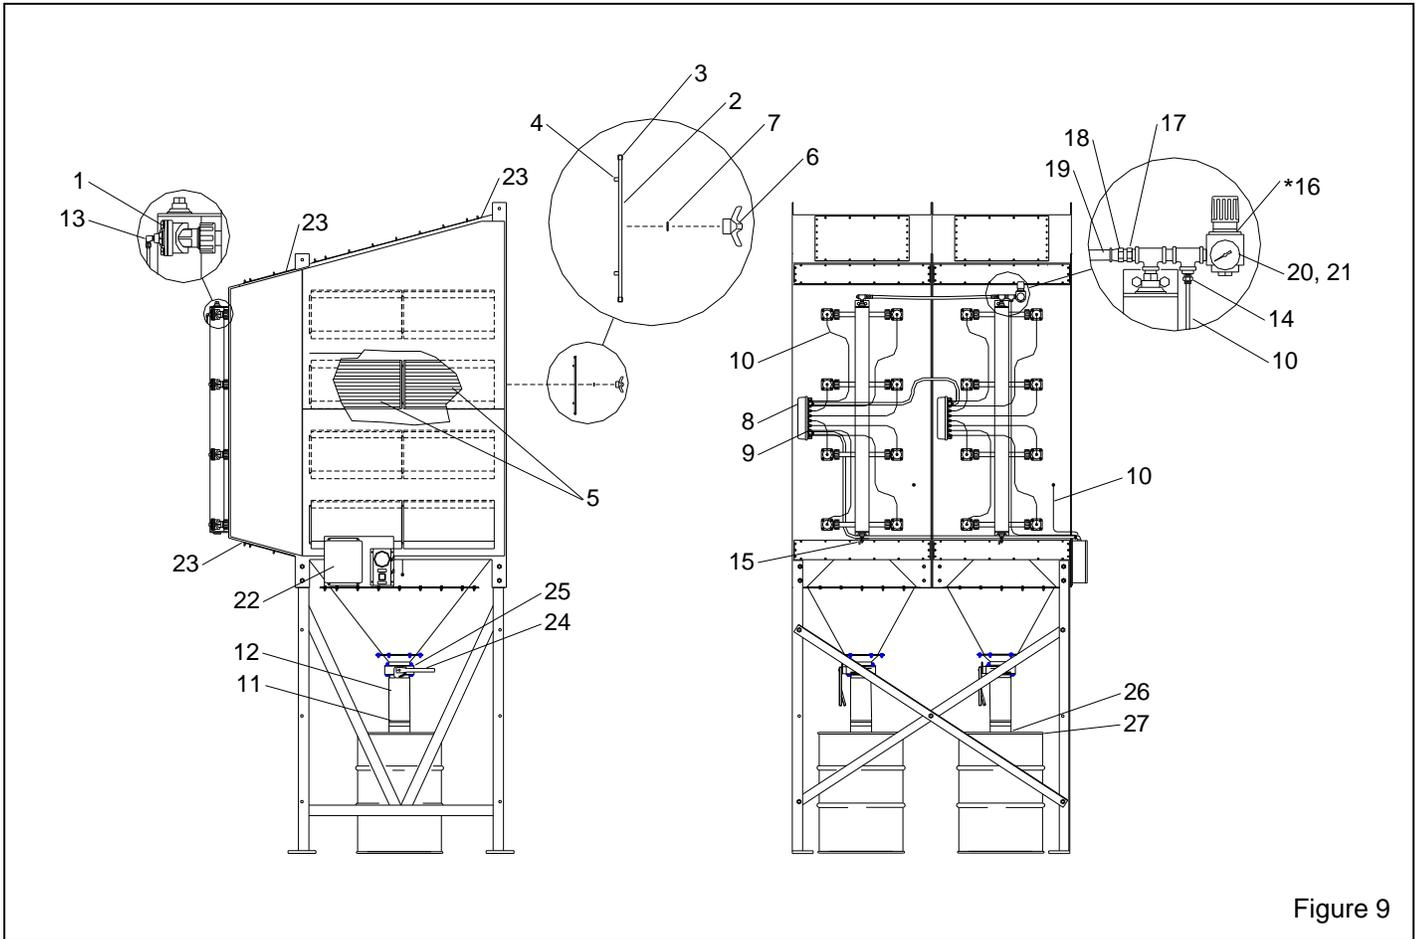

Figure 9
8.3 Common Replacement Parts, Figure 9